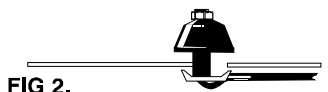

FIG 2.
6. Slide the base backwards as far as possible (Fig 2.) then while holding the base cup with one hand, tighten the nut with a spanner. **TIGHTEN ONLY ONE TURN BEYOND HAND TIGHT. DO NOT OVERTIGHTEN.**